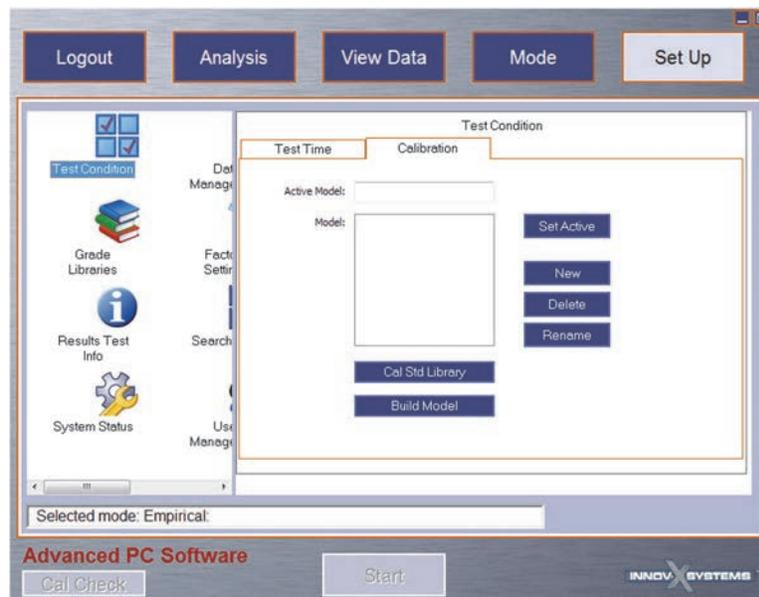

Figure 6-1 The Test Condition pane – Calibration tab
2. Click the **Test Condition** icon () to display the **Test Condition** pane (see Figure 6-1 on page 84).